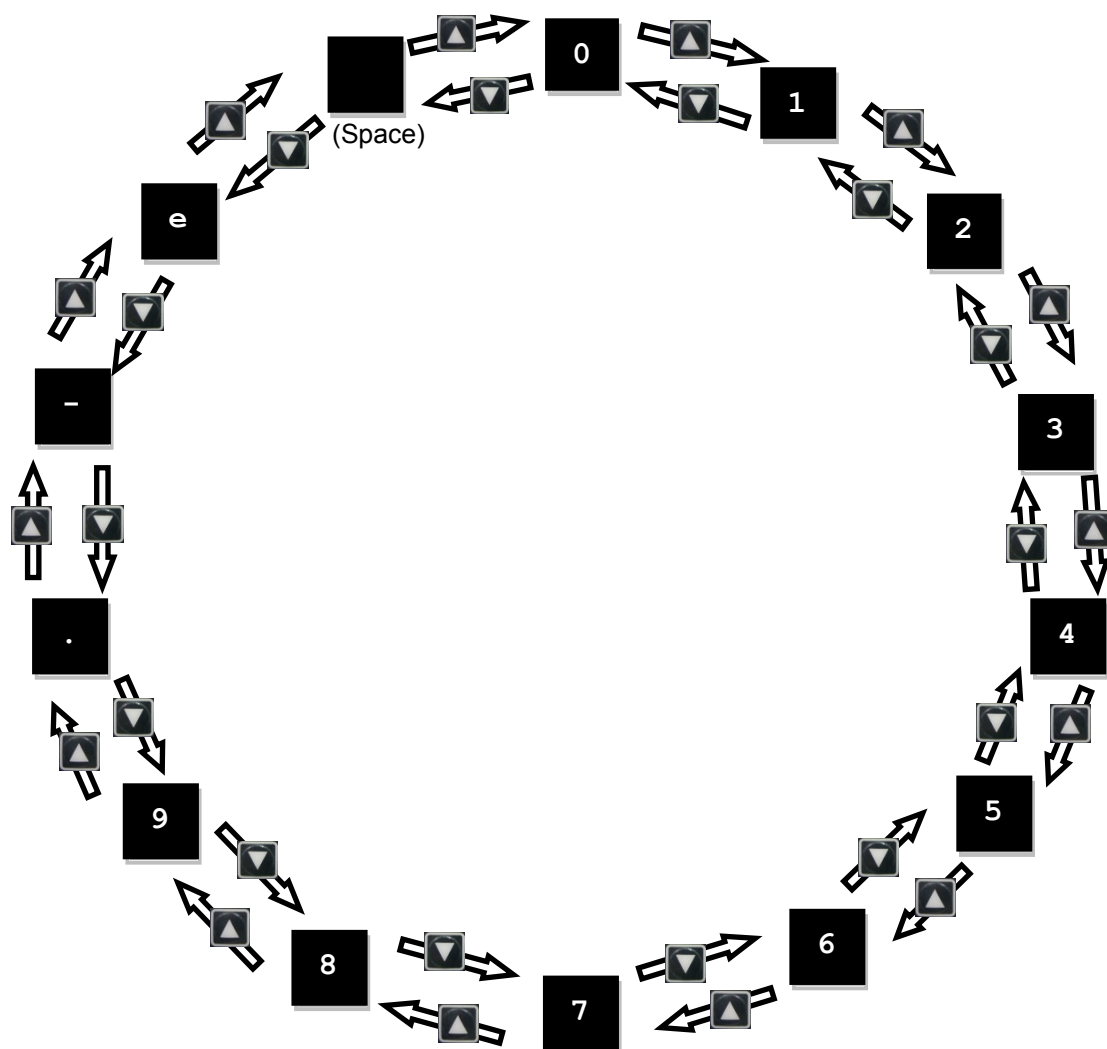

Figure7.5.2.2 Number switching sequence in the parameter edit mode
LCD parameters are classified into two types: enumerated type and non-enumerated type. The parameter marked with “#” in table 7.5.3.1 is the enumerated-type parameter. For this type parameter, after pressing the Enter key, it changes to the edit mode. Press the UP key or Down key to select the desired parameter. The non-enumerated-type parameter requires users to enter the parameter value by themselves. In the edit mode of this type parameter, the UP key or Down key are used to move cursor or to change parameter value. To switch these functions, press the F key. Here, changing the value of common gain (CG, LCD No. 064) is taken as an operation example. For changing other parameter, refer to this operation. Assume that the CG value needs to be changed from 0.5 to 1.2. After entering the page of LCD No. 065, use following steps to change the parameter value. The operation flow chat is given in figure 7.5.2.1.
- Step 4: Press the Up key twice and stop when the number turns to “1”. Refer to figure 7.5.2.2 for the number switching sequence.